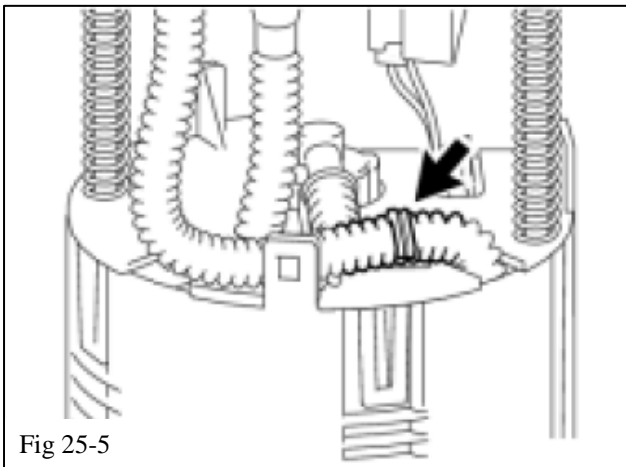

Fig 25-5
- (e) Disconnect the fuel tube. (Fig. 25-5)